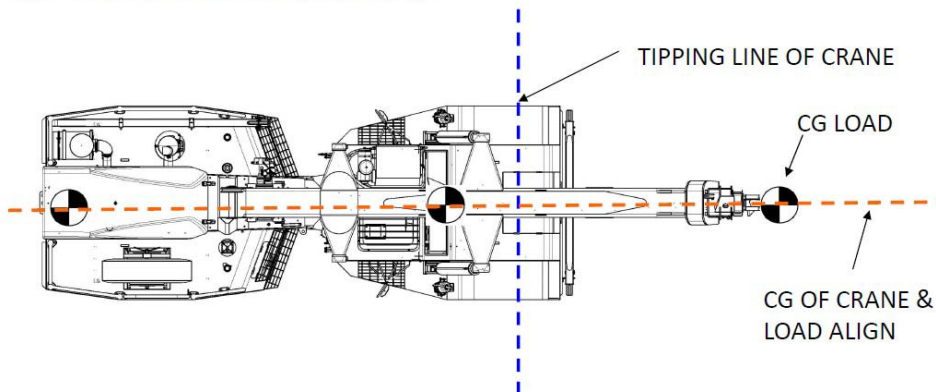

Figure B-1: Articulated Non-slewing crane in non-articulation configuration
*Tipping line change as shown in Figure B-1 and B-2 applies to all type of articulated non-slewing cranes